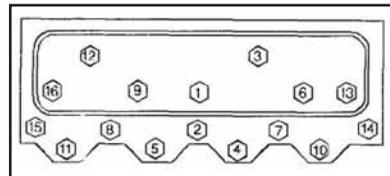

Figure 7 Cylinder head bolt torque sequence for GM 7.4L engines.
3) Tighten all of the cylinder head bolts in the sequence shown in **Figure 7**, above, to 37 ft. lbs (50 Nm).